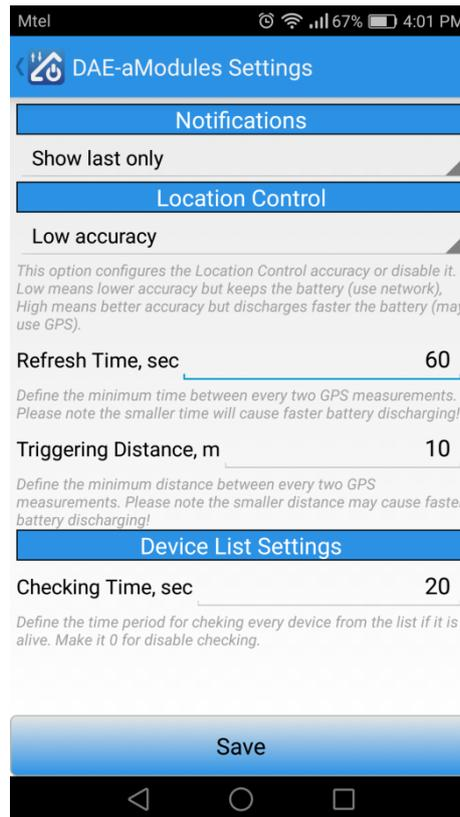

Figure 16.2. DAE-aModules application settings
2. Click application settings. New window will be loaded showing these settings (**Figure 16.2**).